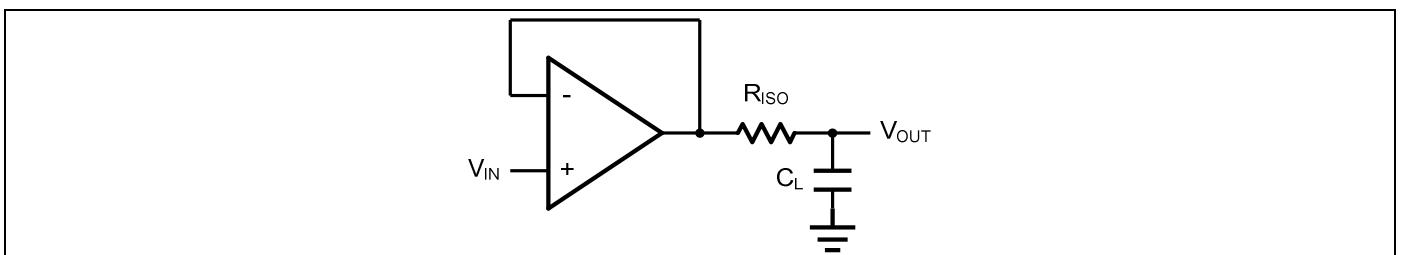
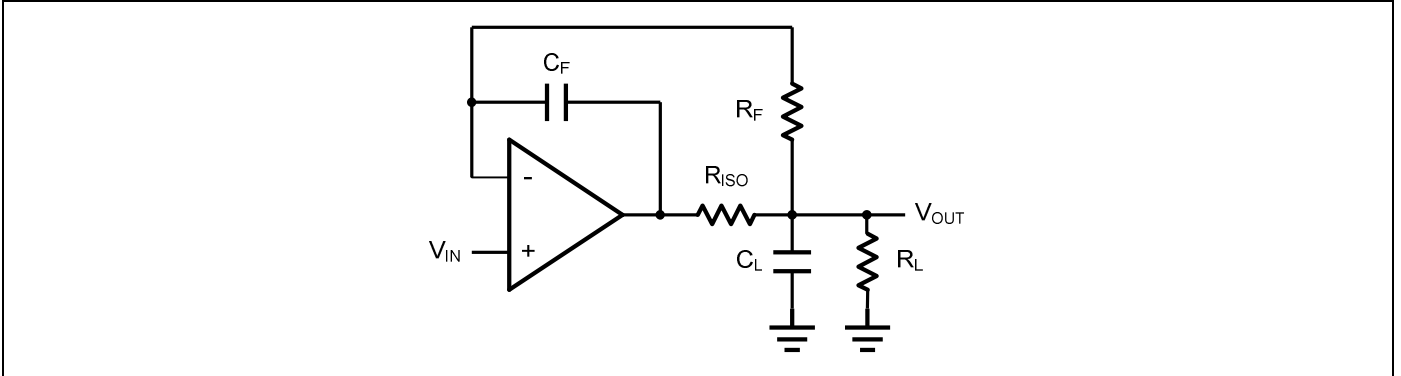

Figure 2. Indirectly Driving a Capacitive Load Using Isolation Resistor
Figure 3. Indirectly Driving a Capacitive Load with DC Accuracy
The HT617X family is optimized for bandwidth and speed, not for driving capacitive loads. Output capacitance will create a pole in the amplifier's feedback path, leading to excessive peaking and potential oscillation. If dealing with load capacitance is a requirement of the application, the two strategies to consider are (1) using a small resistor in series with the amplifier's output and the load capacitance and (2) reducing the bandwidth of the amplifier's feedback loop by increasing the overall noise gain. Figure 2. shows a unity gain follower using the series resistor strategy. The resistor isolates the output from the capacitance and, more importantly, creates a zero in the feedback path that compensates for the pole created by the output capacitance.
The circuit in Figure 3 is an improvement to the one in Figure 2. R_F provides the DC accuracy by feed-forward the V_{IN} to R_L . C_F and R_{ISO} serve to counteract the loss of phase margin by feeding the high frequency component of the output signal back to the amplifier's inverting input, thereby preserving the phase margin in the overall feedback loop. Capacitive drive can be increased by increasing the value of C_F . This in turn will slow down the pulse response.